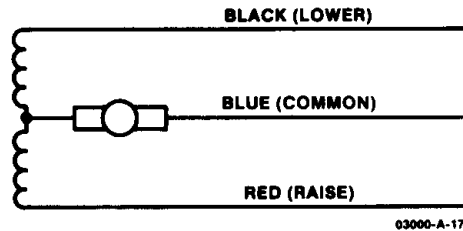

Figure 5. Wiring Schematic for the Bodine Speed Setting Motor
1. Bodine Speed Adjusting Motor (see Figure 5)